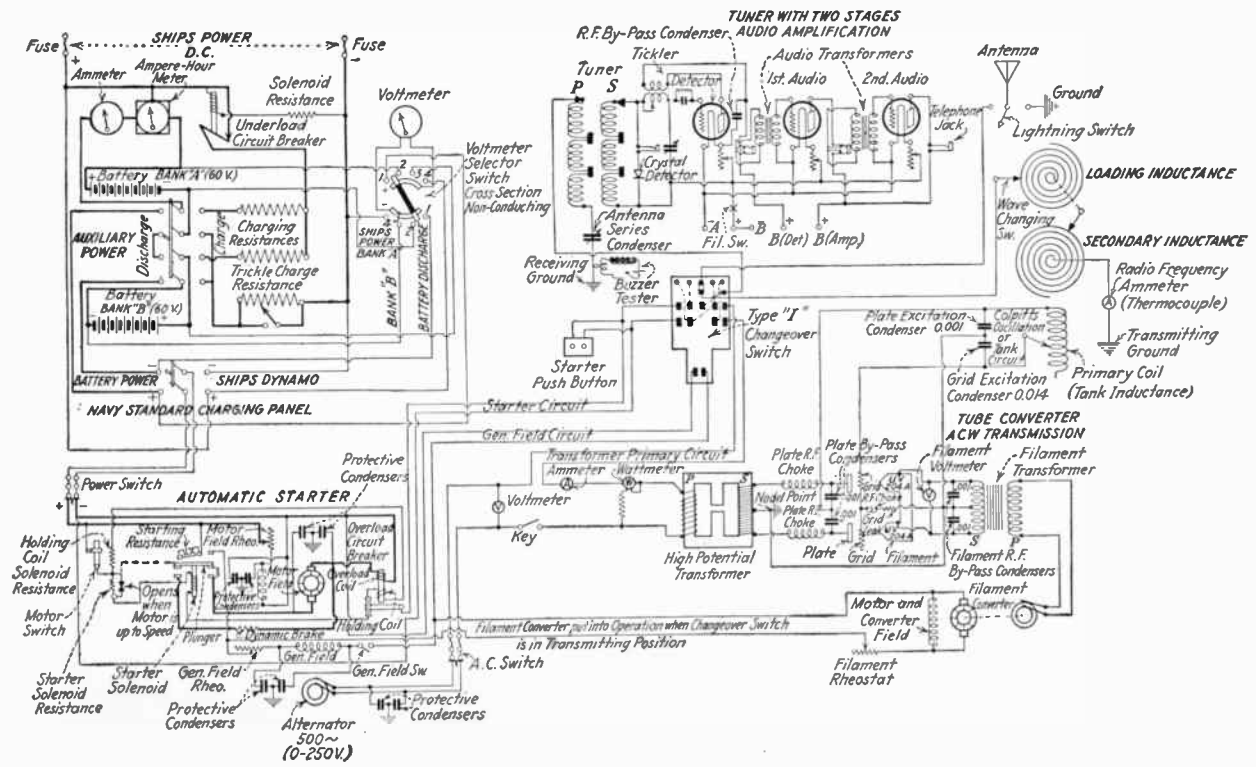

FIG. 1.—Wiring diagram of complete commercial-type transmitter and receiver.
*Ans.* Figure 1 illustrates the wiring diagram of a complete commercial transmitting and receiving system. The function of the apparatus is as follows: